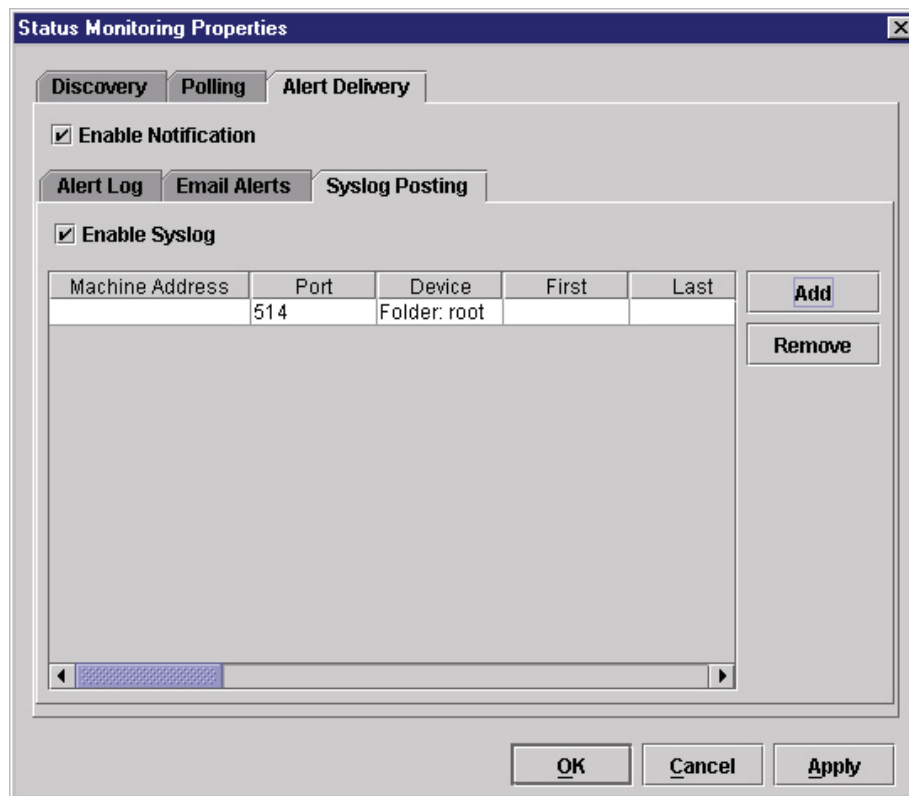

Figure 35 Status Monitoring Properties: Alert Delivery Tab – Syslog posting Sub-Tab
- Syslog Posting:** Used in a UNIX operating system, it allows PNE Auto ID to log alerts to a file located in the PNE Auto ID installation directory. To log alerts, check the **Enable Syslog** check box, then click **Add** (see Figure 35). A task item adds to the log list. In the task item, specify the following as applicable, then click **Apply** or **OK**.